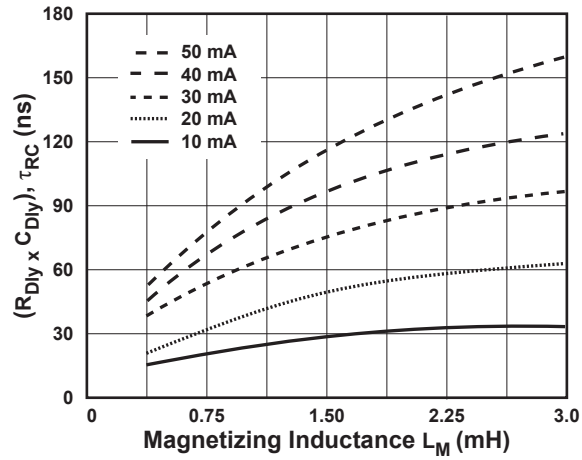

Figure 11.0.7.  $T_{ON}$  Compensation Chart
2. Find the curve that best matches this difference from Figure 11.0.7.
Solving for C5, we get 44 pF. The result should be a match between high line and low line constant current curves. See figure 11.0.7 for details.